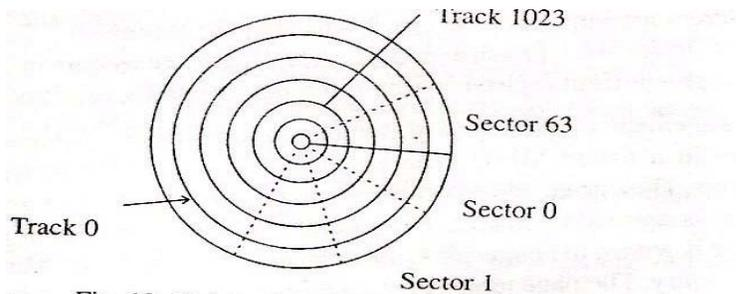

Fig. 13 Disk track and sector organization.
**Data organization on the Disk:-** The drive needs to know where the data to be accessed is located on the disk. In order to provide that location information, data is organized on the disk platters by tracks and sectors. Fig 13 shows simplified view of the organization of tracks and sectors on a disk. The fig. Shows a disk with 1024 tracks, each of which has